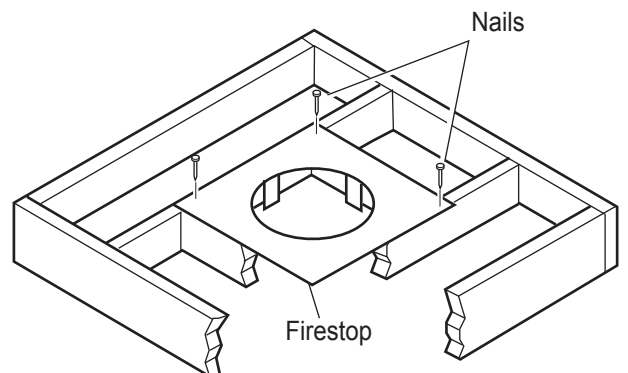
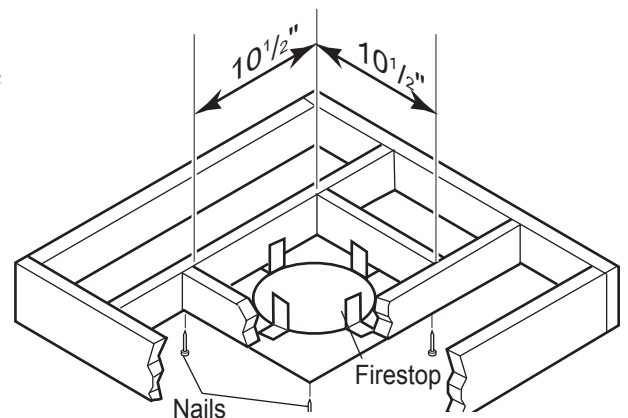

Figure 28- If area above is a room, install firestop above framed hole as shown
Figure 29 - If area above is not a room, install firestop below framed hole as shown
1. Cut a 101/2" (267mm) square hole in the ceiling using the locating hole as a center point. The opening should be framed to 101/2"x101/2" (267mm x 267mm) inside dimensions as shown in Figure 12, page 17 using framing lumber the same size as the ceiling joist. If the area above the ceiling is an insulated ceiling or a room, nail firestop from the top side. This prevents loose insulation from falling into the required clearance space. See Figure 28. Otherwise, install firestop below the framed hole. The firestop should be installed with no less than three nails per side. See Figure 29.